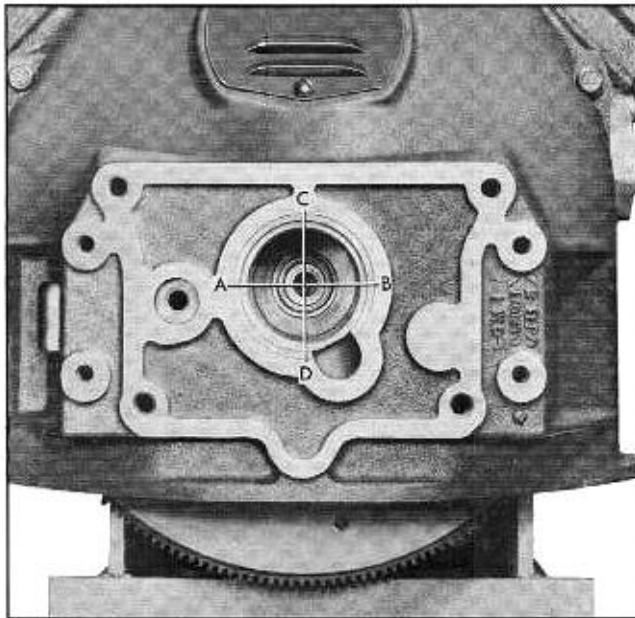

Fig. 7-34 Dial Indicator in Place to Check Housing Hole
dial indicator tip at point A, Fig. 7-34. Set dial at 0. Rotate crankshaft until indicator spindle is at B directly opposite point A. Indicator reading at B must not be more than .005" on either side of initial reading indicating that center of housing hole is within .0025" on either side of center of flywheel.
- b. Check vertically: Rotate crankshaft to place dial indicator tip at point C, Fig. 7-34. Set dial at .014". Rotate crankshaft until indicator spindle is at D directly under C. Indicator reading must be between .010" and .000" indicating center of hole in housing is .002" to .007" below center of flywheel.